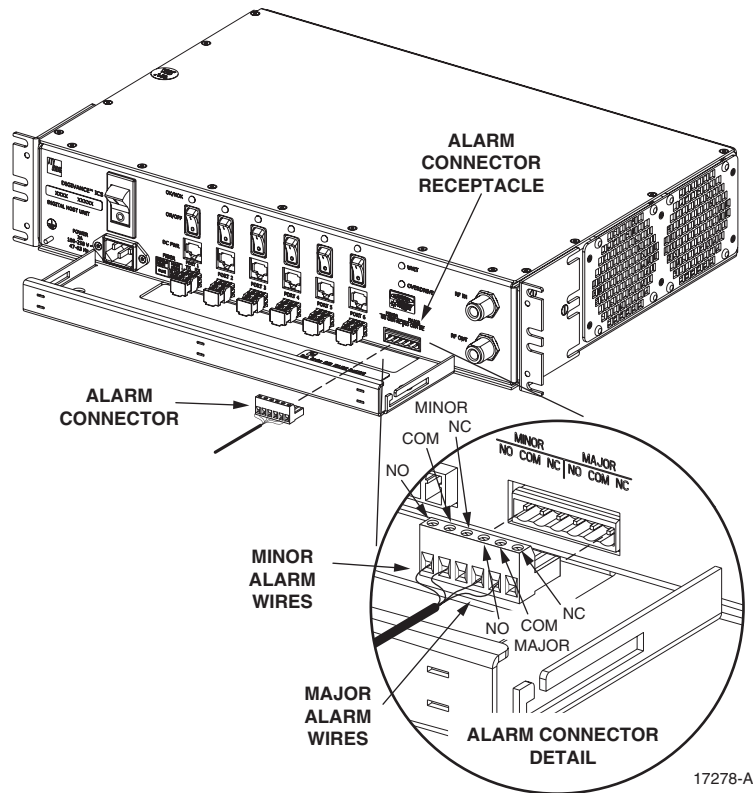

Figure 23. External Alarm System Connections
4. Connect the Major alarm wire pair to the **MAJOR COM/NC** or **MAJOR COM/NO** terminals (whichever is required by the external alarm system) on the DHU alarm terminal connector (supplied with DHU) as shown in Figure 23.
5. Connect the Minor alarm wire pair to the **MINOR COM/NC** or **MINOR COM/NO** terminals (whichever is required by the external alarm system) on the DHU alarm terminal connector as shown in Figure 23.